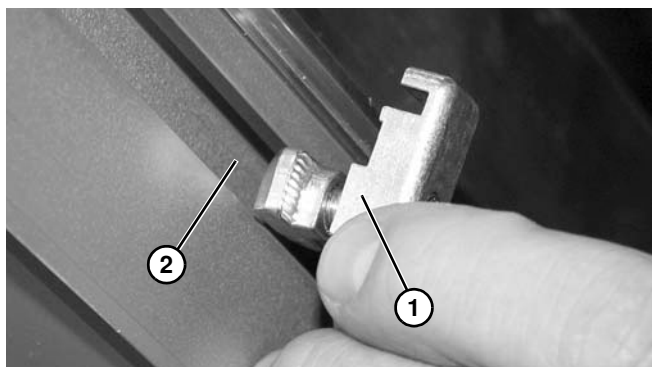

Figure 17
1. Install guide clip assembly (**Figure 17, item 1**) into conveyor t-slot (**Figure 17, item 2**) as shown.